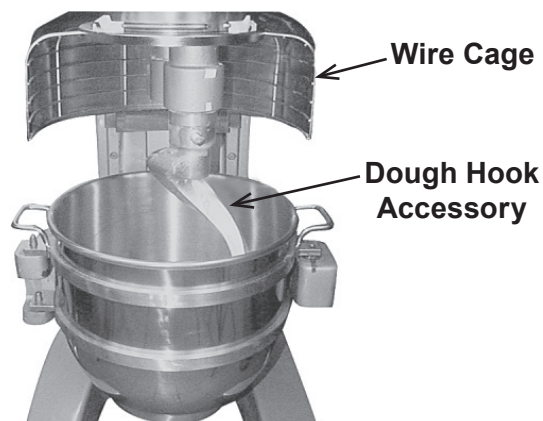

Fig. 4
4. Place the agitator inside the bowl, then attach it to the agitator shaft (Fig. 4).